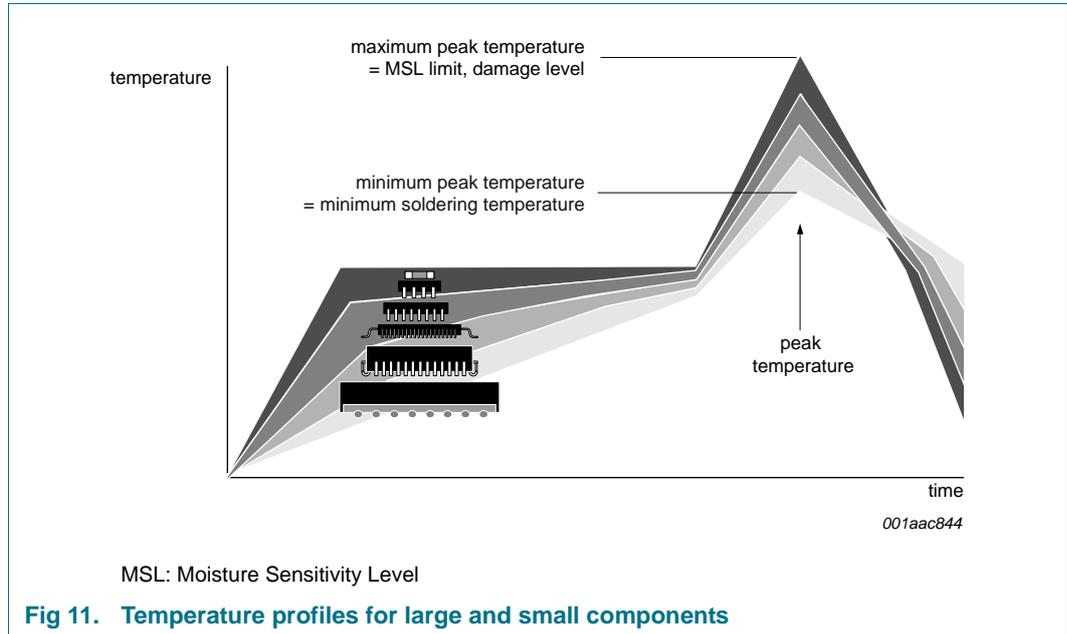

Fig 11. Temperature profiles for large and small components
- Lead-free versus SnPb soldering; note that a lead-free reflow process usually leads to higher minimum peak temperatures (see Figure 11) than a PbSn process, thus reducing the process window
Studies have shown that small packages reach higher temperatures during reflow soldering, see Figure 11.